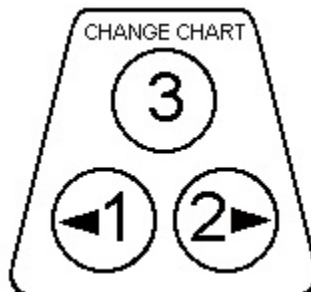

Figure 3.2
Press and release the CHANGE CHART key ( 3 on Figure 3.2). Wait until pen(s) moves off scale and LED status changes from flashing to steady. Press and release the CHANGE CHART (3) again, the pen will begin to move back onto the chart briefly stopping at (or close to) the outermost graduation of the chart. Green LED remains on steady during this time.